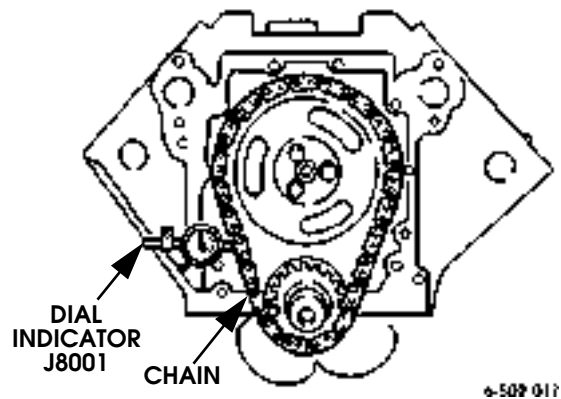

Figure 2-89: Measuring Timing Chain Deflection
1. Measure timing chain deflection. Deflection must not exceed 0.810 in. (21 mm). Use dial indicator J-8001 (Figure 2-89).
1. Remove oil filter from adapter (Figure 2-89). Discard oil filter.